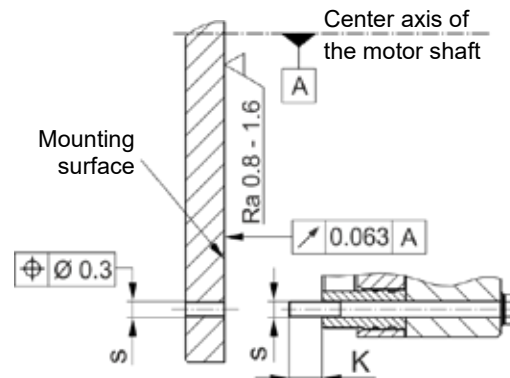

Fig. 4
- ❑ The mounting dimensions and the tapped holes s with depth $K + 2 \text{ mm}$ (K = screw projection) must be provided according to the Catalogue or the applicable assembly drawing (Fig. 4).